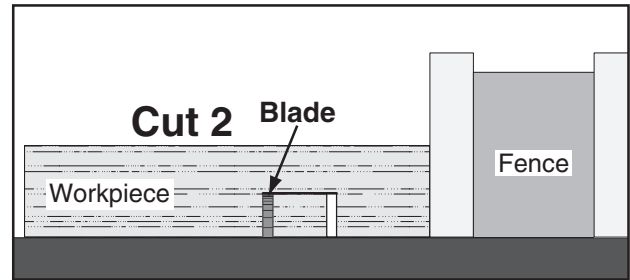

Figure 81. Second cut for a single blade dado.
8. Repeat the cutting operation on the other side of the dado channel, as shown in **Figure 81**.